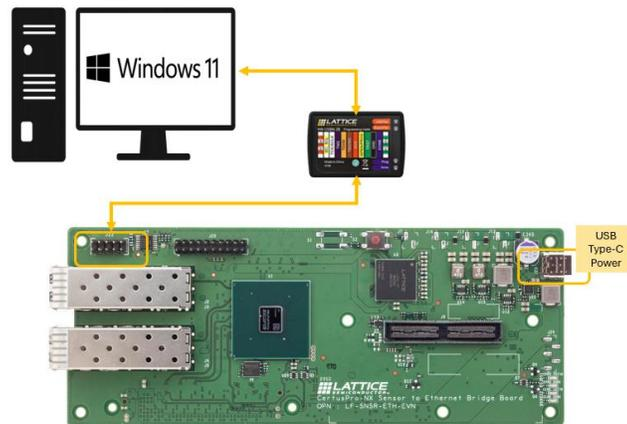

Figure 6.38. Bit File Programming Hardware Setup
1. Use the Lattice Radiant Programmer to program the board. Launch it as a standalone tool or from a Lattice Radiant project. Set up the hardware as shown in Figure 6.38, and connect the Lattice Programming Cable to header J22 (Figure 6.39).